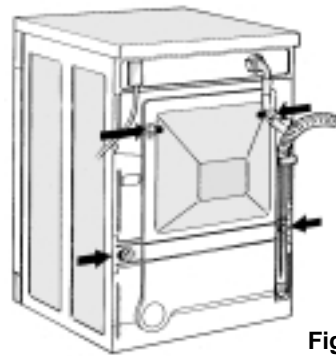

Fig. 2
1. Slacken the bolts with the spanner supplied (Fig. 2).